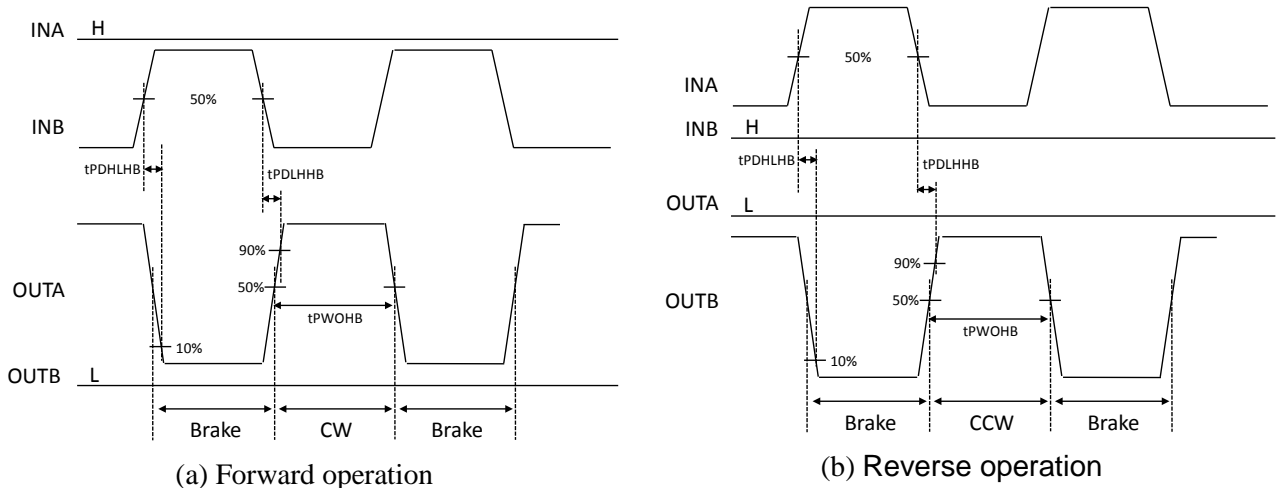
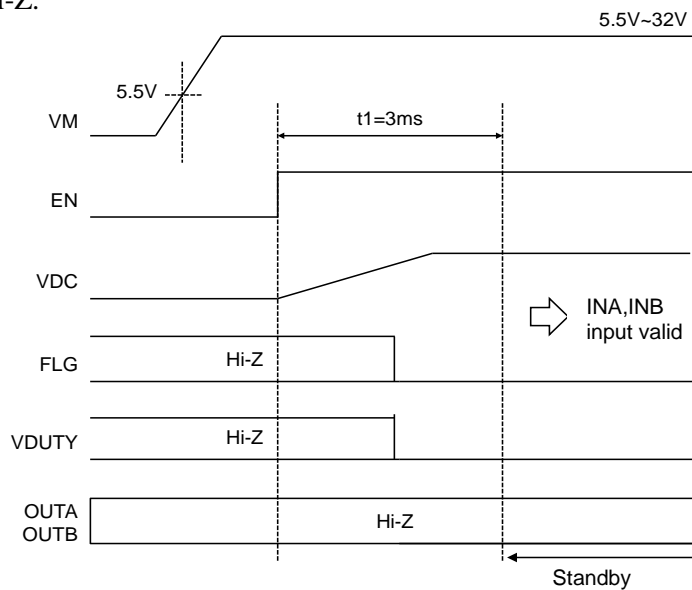
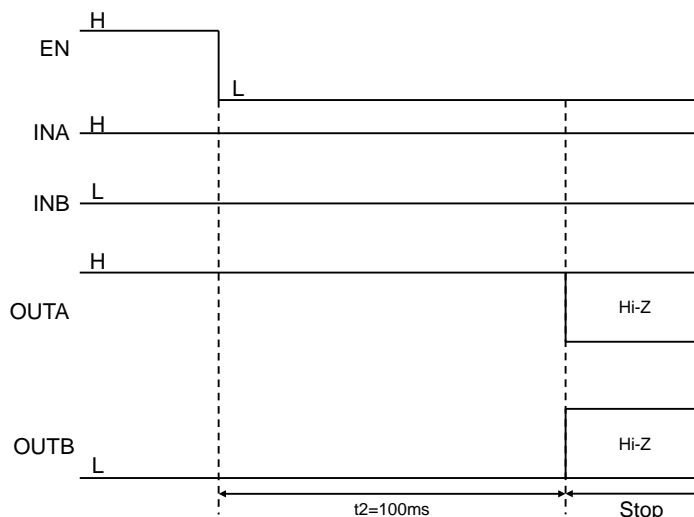

Figure 3. Output delay time timing chart (EN="H")
Figure 8. Timing Chart of EN voltage input after power-up
Figure 9. Timing Chart from EN="H" becomes "L" to OUTA= OUTB=Hi-Z
Note 8. Refer to Figure 3.
Note 10. See Figure 8 and Figure 9 for timing chart of Standby and Stop. See Figure 3 for timing chart of Brake.
4.5V LDO output will rise by applying a 5.5V voltage or more to the VM pin and setting the EN pin = "H". Input the INA and the INB signals 3ms (t1 period) after the EN pin = "H", waiting for the stabilization of the VDC output. After the certain stabilization time of VDC output (t1 period), The IC becomes Standby and INA and INB input become valid. Figure 8 is timing chart from VM power supply to INA, INB input is valid.
4.5V LDO output stops after inputting "L" to EN pin. Within 100ms(t2 period), OUTA and OUTB become Hi-Z(Stop). Do not change input levels of INA and INB, because OUTA and OUTB changes according to input level of INA and INB during t2 period. Figure 9 is timing chart from IN="H" becomes "L" to OUTA=OUTB = Hi-Z.